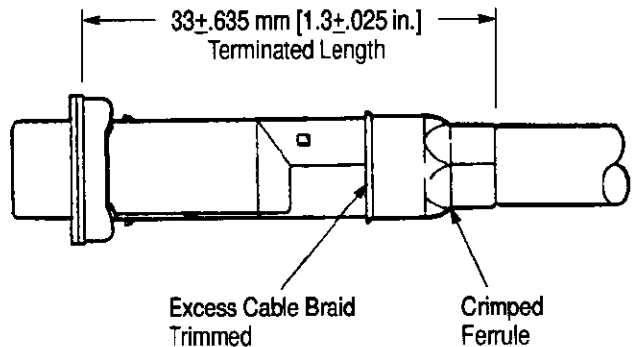

Figure 6
3. Examine the terminated assembly according to Figure 6 and, if necessary, trim excess cable braid from the braid crimp area.